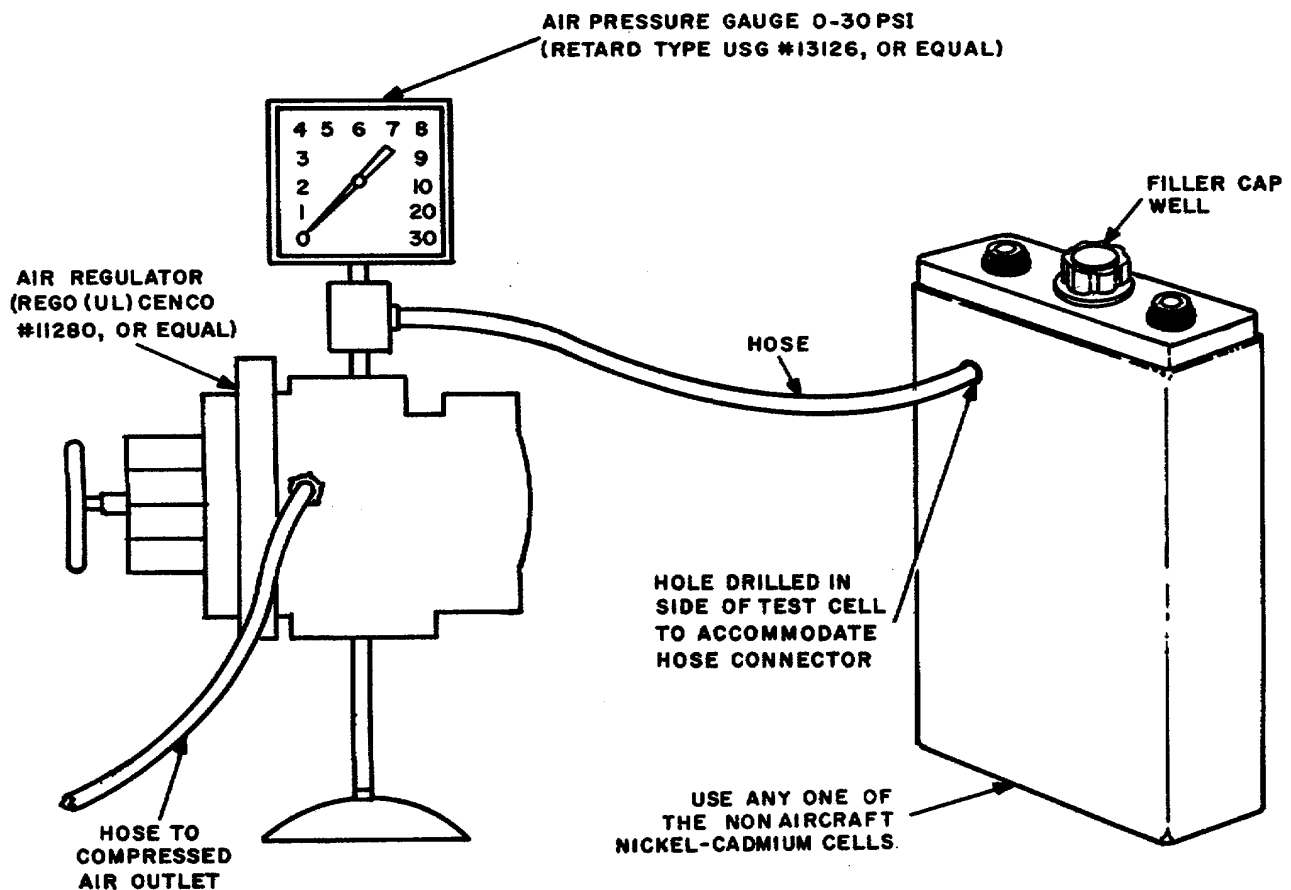

Figure 5-7. Fabrication Diagram for Fillercap Vent Valve Tester
- a. Fabricate the fillercap vent valve tester as shown in figure 5-7. (Use a test cell that has been flushed clean and is empty of electrolyte.)